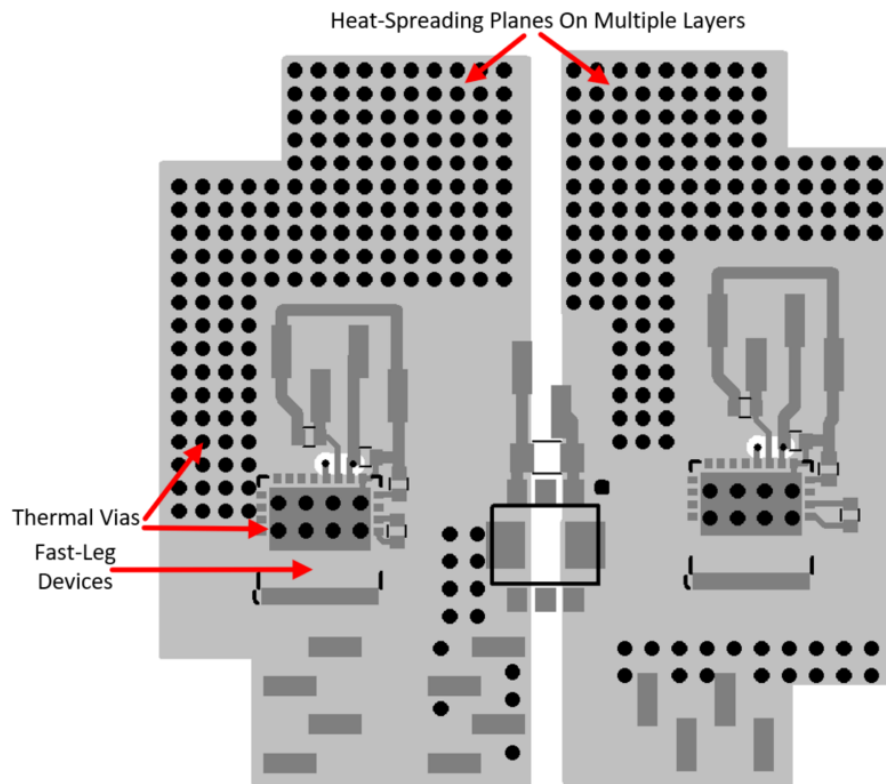

Figure 23. Fast-Leg Device Thermal Placement and Routing
- Put heat-spreading planes as large as possible under the Fast-Leg power devices. Use thermal vias to connect the high-speed device power pads to the heat-spreading planes, as shown in Figure 23.